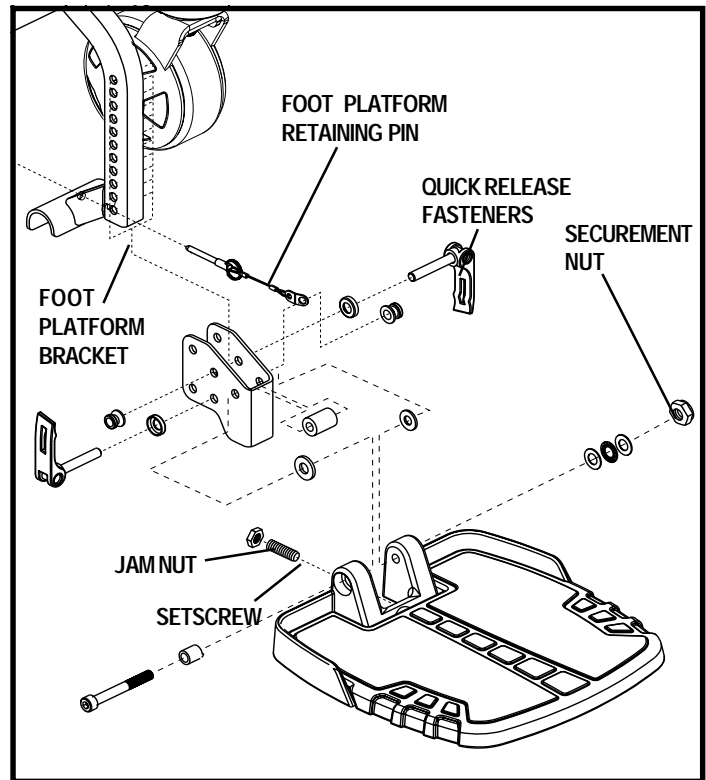
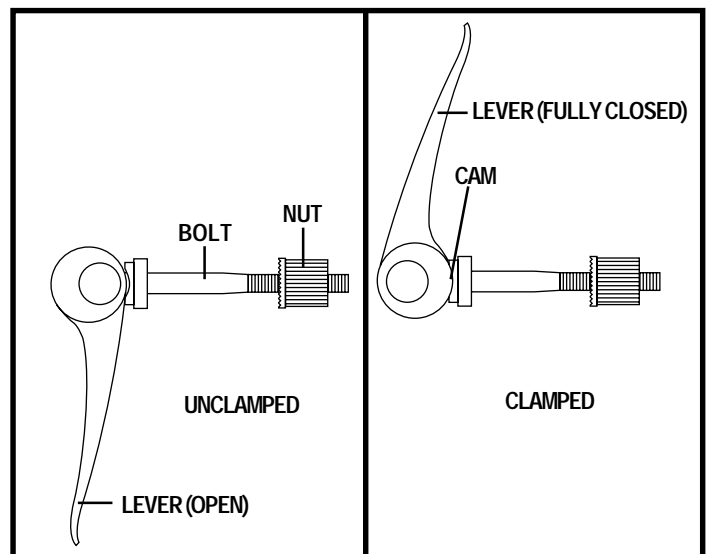

Figure 17. Foot Platform Adjustment
Figure 18. Quick Release Fastener Operation
1. Remove the quick release fasteners from the foot platform bracket. See figure 17.
**Quick Release Fasteners:** The foot platform is attached to the power base with two quick release fasteners. See figure 17. Each quick release fastener consists of a bolt, a lever, and a nut. See figure 18. The lever has a cam on the end that allows it to clamp into place. The quick release fastener has
You can adjust the angle of the foot platform with a hex key. See figure 17.